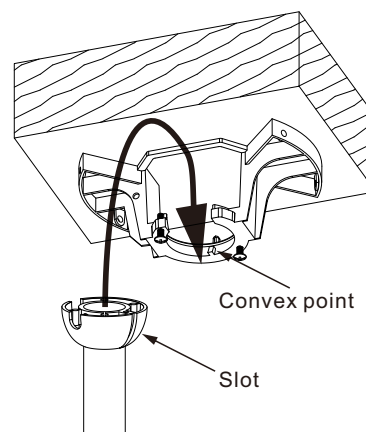

Figure 15
Step 9. Place the downrod ball into the hanger bracket socket. (Fig. 15) And rotate fan and downrod assembly until tab on bracket lines up with slot on ball.